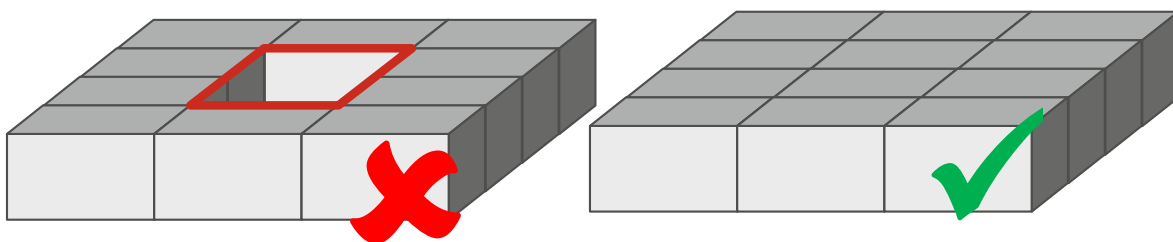

Fig. 25: Left: "chimney form" (generally not permitted), Right: suitable layer form
- The forming of "chimneys" (voids) is fundamentally excluded (see Fig. 25)*.